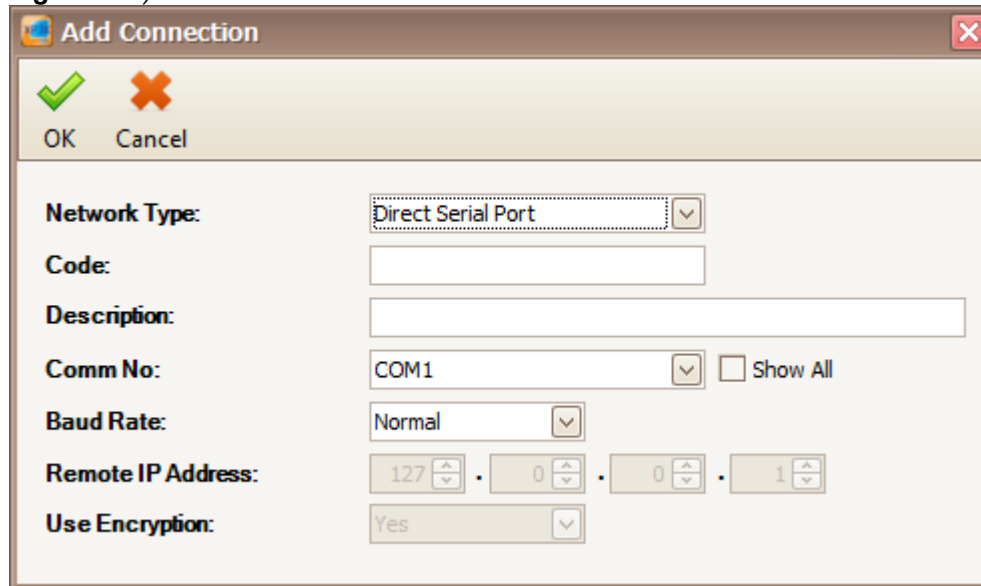

Figure 109 - Add Connection
- To add connection, click the Add button on the top menu. The following window will be shown (Refer **Figure 109**).